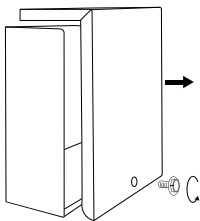

Figure 1
2. Remove the metal cover by a screwdriver (NOT Included), and take out the mounting brackets, screws and anchors inside.(Figure 1)